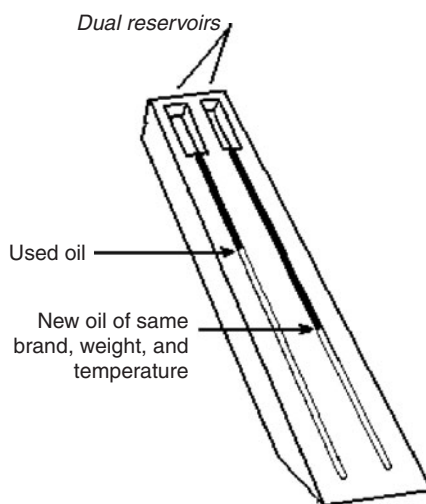

Fig. 5-12. A portable viscosity tester. Exxon Mobil makes one, or you can make one with a router and a piece of wood.
3. The Exxon Mobil Viscosity tester: This is a clever plastic device with two grooves on the upper surface, allowing users to compare the change in viscosity between new oil and oil that is about to be changed. When soot levels in engine oil get too high, it increases the oil's viscosity, and it is time for an oil change, regardless of how few or how many hours have passed since the last one. (See Figure 5-12.)